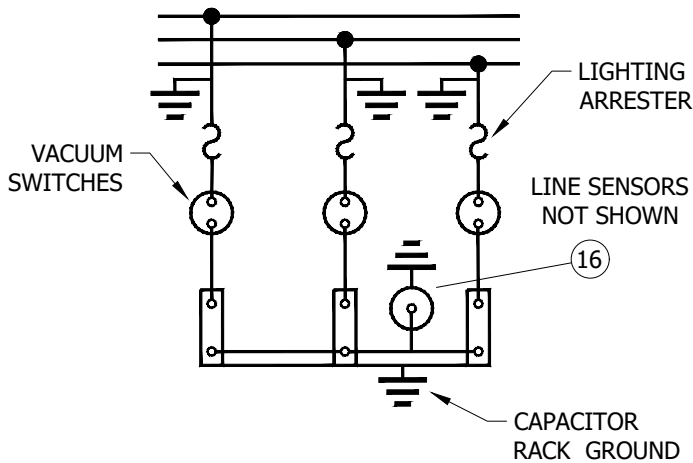
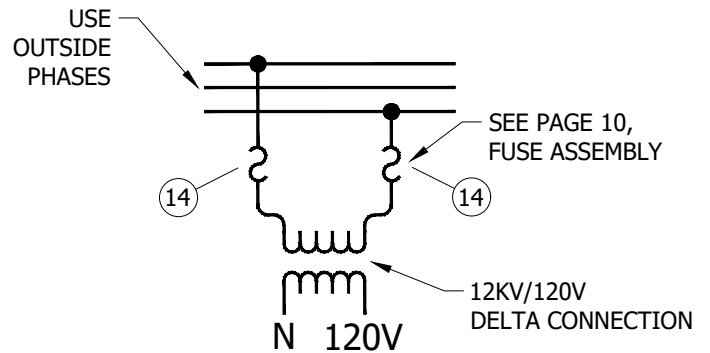

FIGURE 4
FIGURE 5
(O) SEE FIGURE 4 FOR WIRING DIAGRAM AND FIGURE 5 FOR POTENTIAL TRANSFORMER CONNECTION.